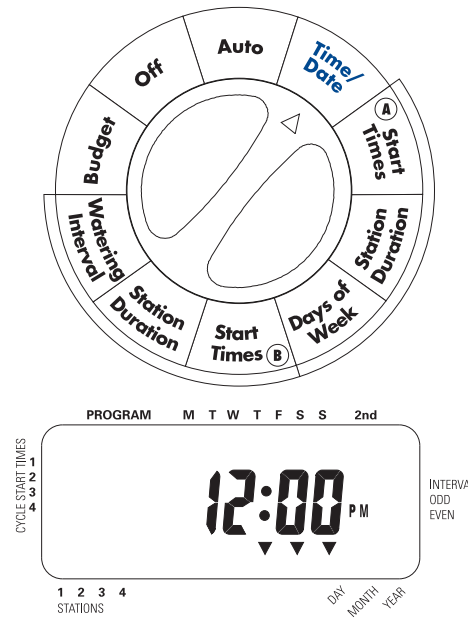

Figure 1: LCD Display with Surrounding Information
- 12:00 PM will appear in the display with three arrows pointing to the year, month, and day. [See Figure 1]